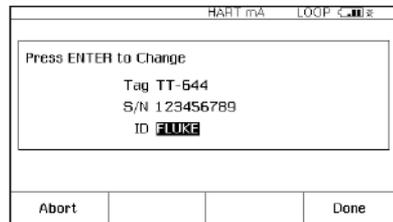

Figure 9.
- Now you are presented with the Tag entry screen (Figure 9).